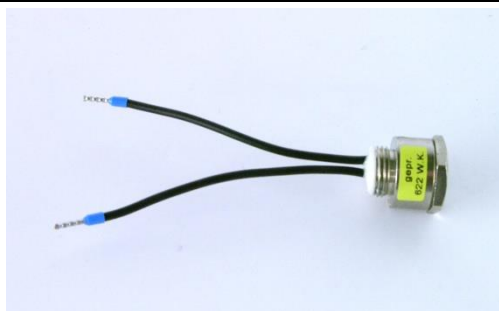

Figure 06: Terminator
It is necessary to terminate the data link on both sides of the cable. In the Remote Indicator II a terminating resistor is already integrated. The terminator (see figure 06) for the VN93 or VN87plus (EX) unit is scope of supply of the Remote Indicator II package as well as the cable gland for the cable entry.